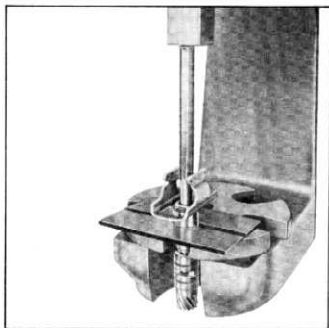

Fig. 193—Pressing Gear Out of Sleeve
- Support governor on $\frac{3}{16}$ " plates installed in exhaust slots of governor sleeve, place in arbor press and with a long punch press gear out of sleeve (fig. 193).